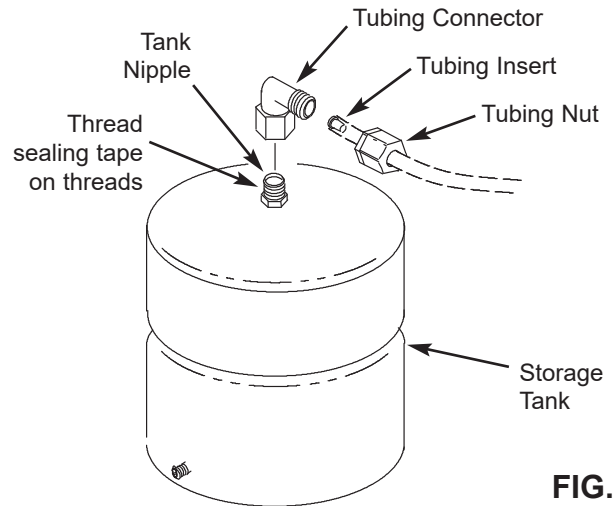

FIG. 13
1. Apply thread sealing tape (2 wraps clockwise) to the threads on the nipple at the top of the tank. See Fig 13.
2. Locate the tubing connector. See Fig. 13. Slowly tighten the tubing connector onto the tank nipple 7-8 full turns, so as not to cross thread or overtighten.
5. Connect yellow tube to tank connector. See Figs. 13 and 22.